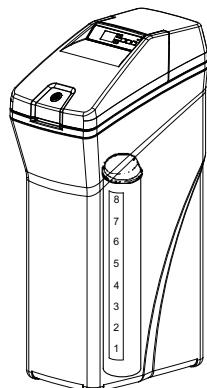

Figure 15
2. Determine level of salt in brine tank using yellow indicator on side of brine well, inside brine tank (see Figure 15).